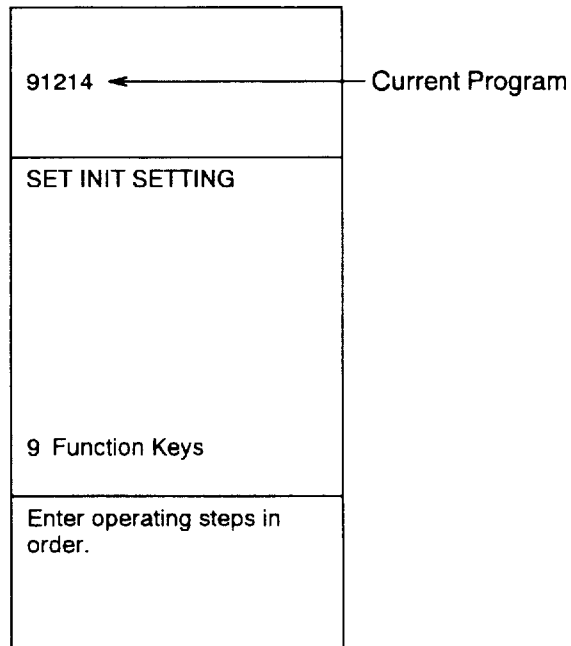
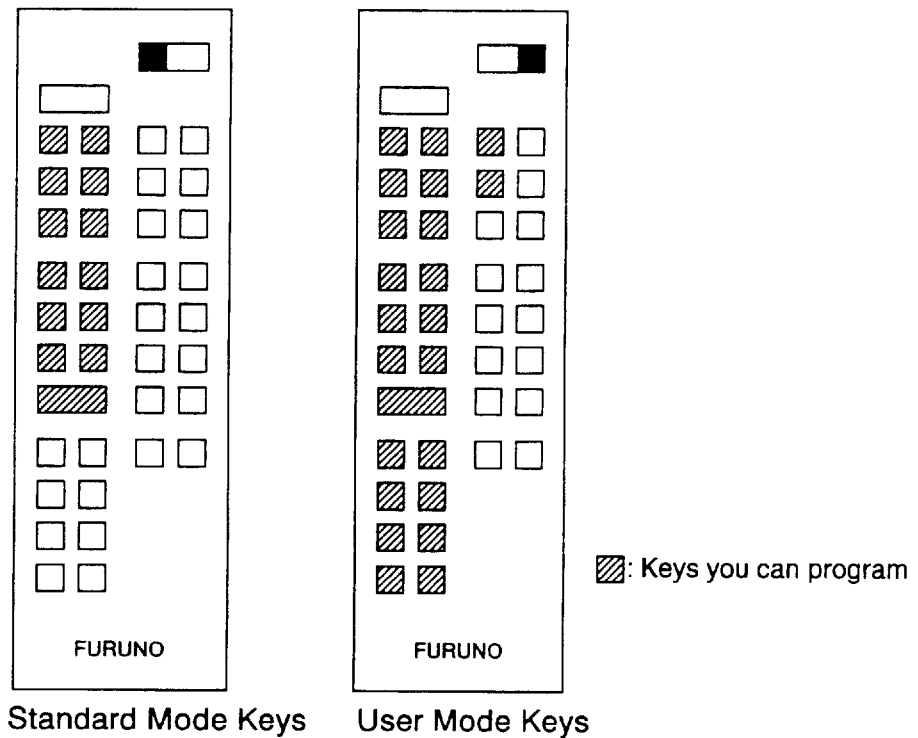

Figure 8-9 SET INIT SETTINGS menu, set function keys
Figure 8-10 Remote control unit keys which you can program
- 2) Press the key on the remote control unit which you want to know its program. (See Figure 8-10 for which keys which can be programmed.) In Figure 8-9 a key is programmed in the key sequence of 91214, as shown on the top of the menu screen. For complete menu tree, see the appendix.
The remote control unit keys which you can program are shaded in Figure 8-10. The procedure is the same as that for programming the function keys on the display unit.